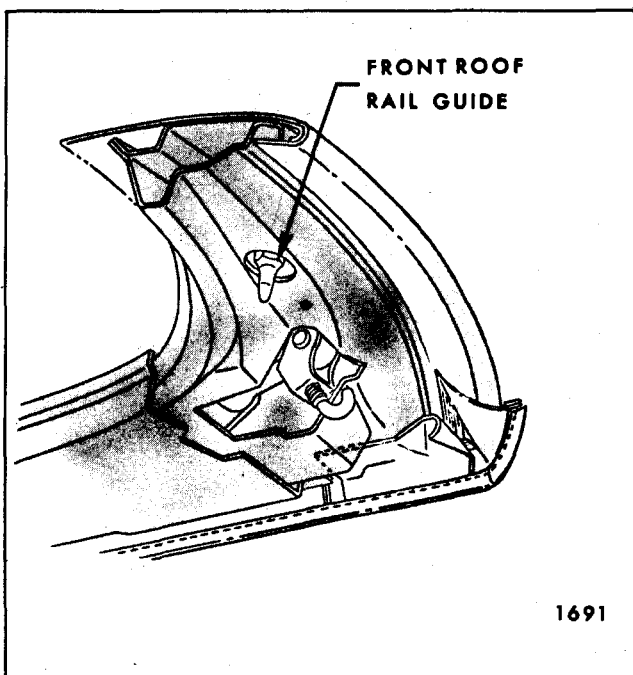

Fig. 12-31-Front Roof Rail Guide and Lock Hook
2. Loosen guide and adjust to desired position; then tighten guide (Fig. 12-31).